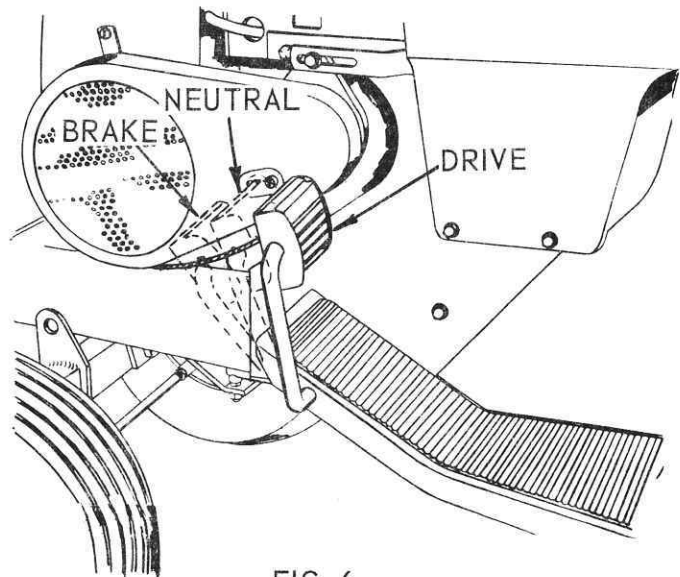
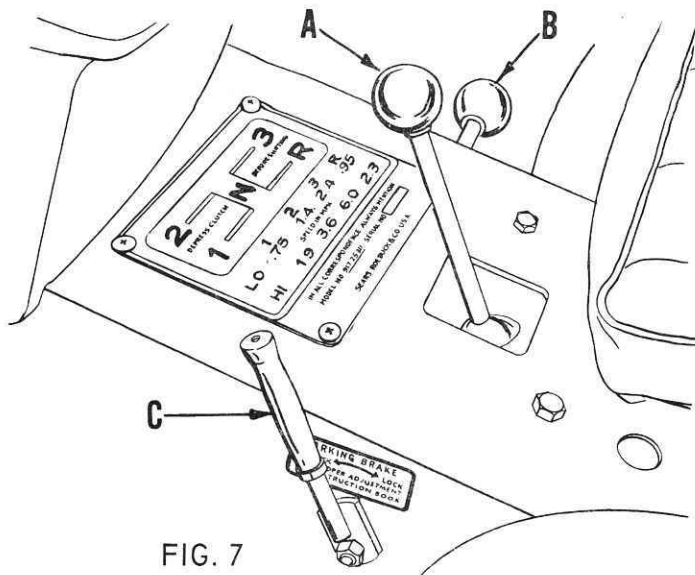

FIG. 6
FIG. 7
2. The transmission (transaxle) gear shift lever (A), is located at front, center of seat.
- a. The gear shift lever selects the FORWARD speeds, the NEUTRAL and REVERSE speeds. Refer to Fig. 7.
3. The high-low range (B), is located on R.H. frame side just forward of R.H. rear fender. The high-low range lever has 3 positions, up for high-range, center for neutral, and down for low range. There are two neutral positions in transmission, one on the gear shift lever, and one on the high-low range lever. Both levers must be engaged for tractor to operate. Place gear shift lever in neutral position for starting tractor. Place high-low range lever in neutral for easier pushing of tractor or when tractor is being towed.
4. To engage park brake (C), push foot pedal all the way down, pull backward on park brake lever and release foot pedal. Push lever forward to release brake.
- a. Transmission gear shift lever (A, Fig. 7), is in NEUTRAL.
- b. The high-low range lever (B, Fig. 7), is in NEUTRAL.
3. Depress foot pedal, refer to Fig. 6, to neutral position. THIS IS ESPECIALLY HELPFUL IN COLD WEATHER. Release park brake (C, Fig. 7). Continued on page 8.